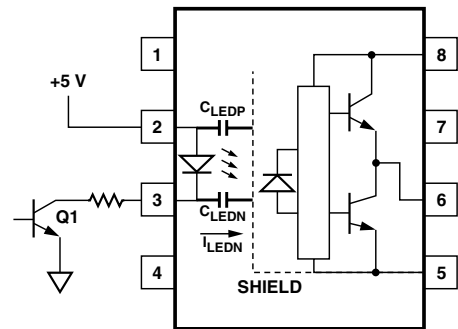

Figure 24. Not Recommended Open Collector Drive Circuit.
**Step 1:** Calculate Rg minimum from the IOL peak specification. The IGBT and Rg in Figure 24 can be analyzed as a simple RC circuit with a voltage supplied by the HCPL-314J.
The open collector drive circuit, shown in Figure 24, can not keep the LED off during a  $+dV_{CM}/dt$  transient, since all the current flowing through  $C_{LEDN}$  must be